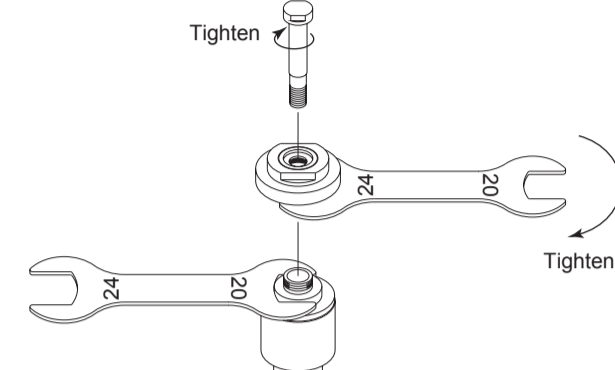

Fig. 9
- Place 20mm wrench on the spindle shaft to be fastened. Turn the flange with the grindstone clockwise to be attached to the Spindle (Fig.9).